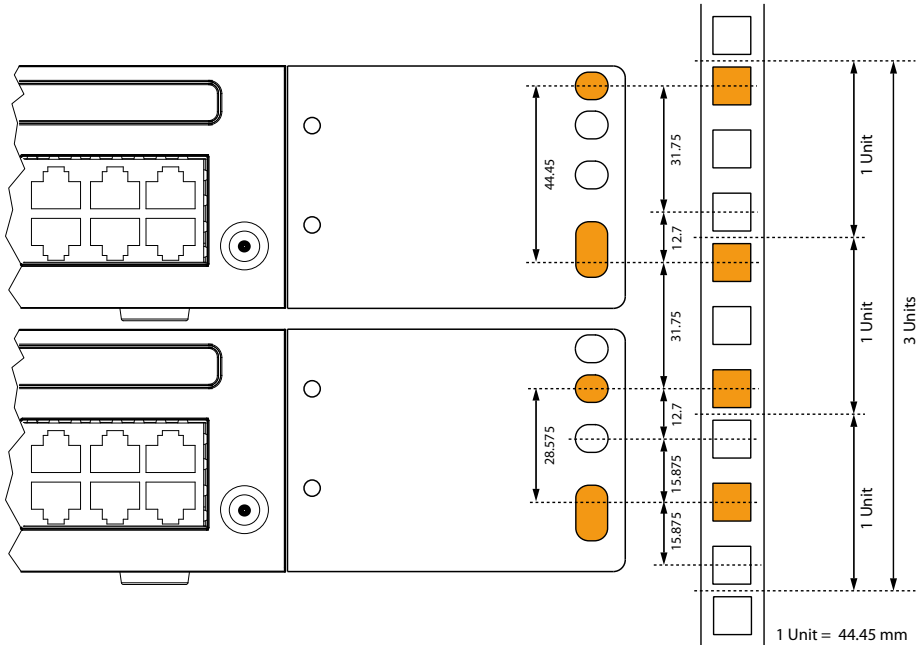

Fig. 16 Placing two communication servers above each other inside a 19" rack
- The holes in the mounting plates allow two communication servers to be placed directly above each other with a space requirement of three units. Different holes in the mounting plates are used for this purpose (see Fig. 16).
7. Secure the cage nuts in the appropriate positions in the rack's fastening rails (see Fig. 16).